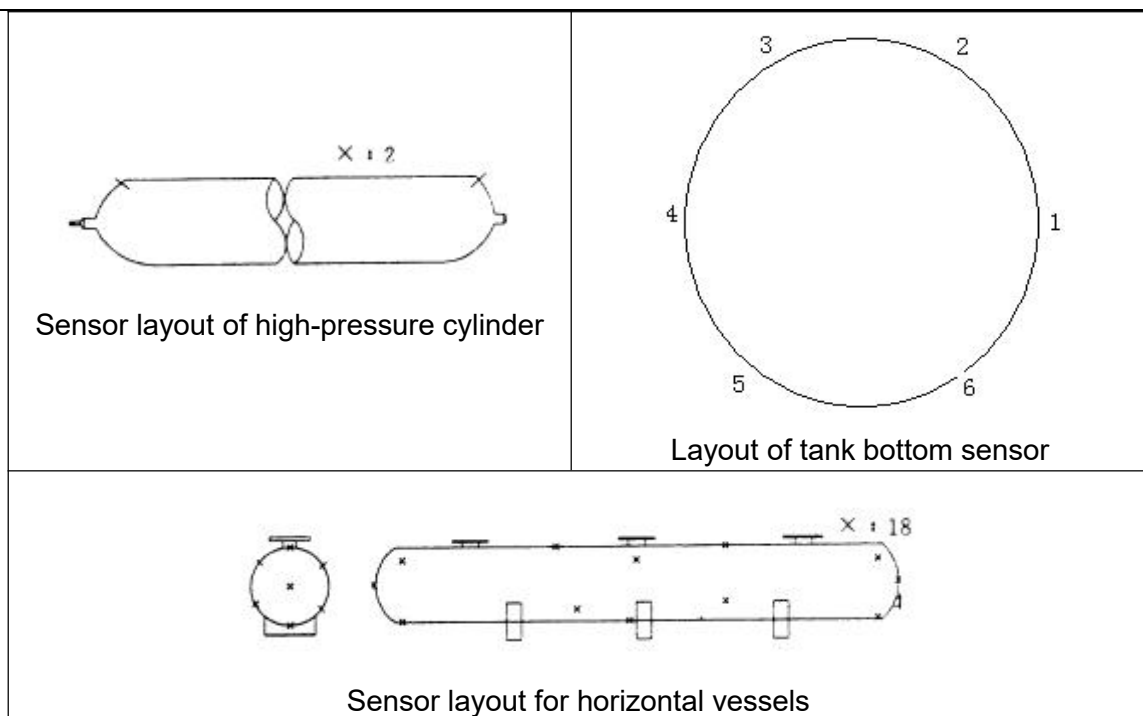

Fig. 7-1 Sensor Layout of Pressure Vessels
- 1) **Sensor layout scheme:** the number of channels and sensors of the AE instrument is determined by the external diameter and height of the measured object (when the attenuation curve and the sensor spacing of the similar material and structure is known). Generally, the distance between the crack signal of metal special equipment and the sensor array is not more than 5m, and the location diagram of different containers can refer to Fig. 7-1; for the tested object in the laboratory, it can be determined according to the structure, or material or the research direction of the tested object, such as using 2 sensors for the tensile strength test and using 2 or 8 sensors for rock mechanic tests.